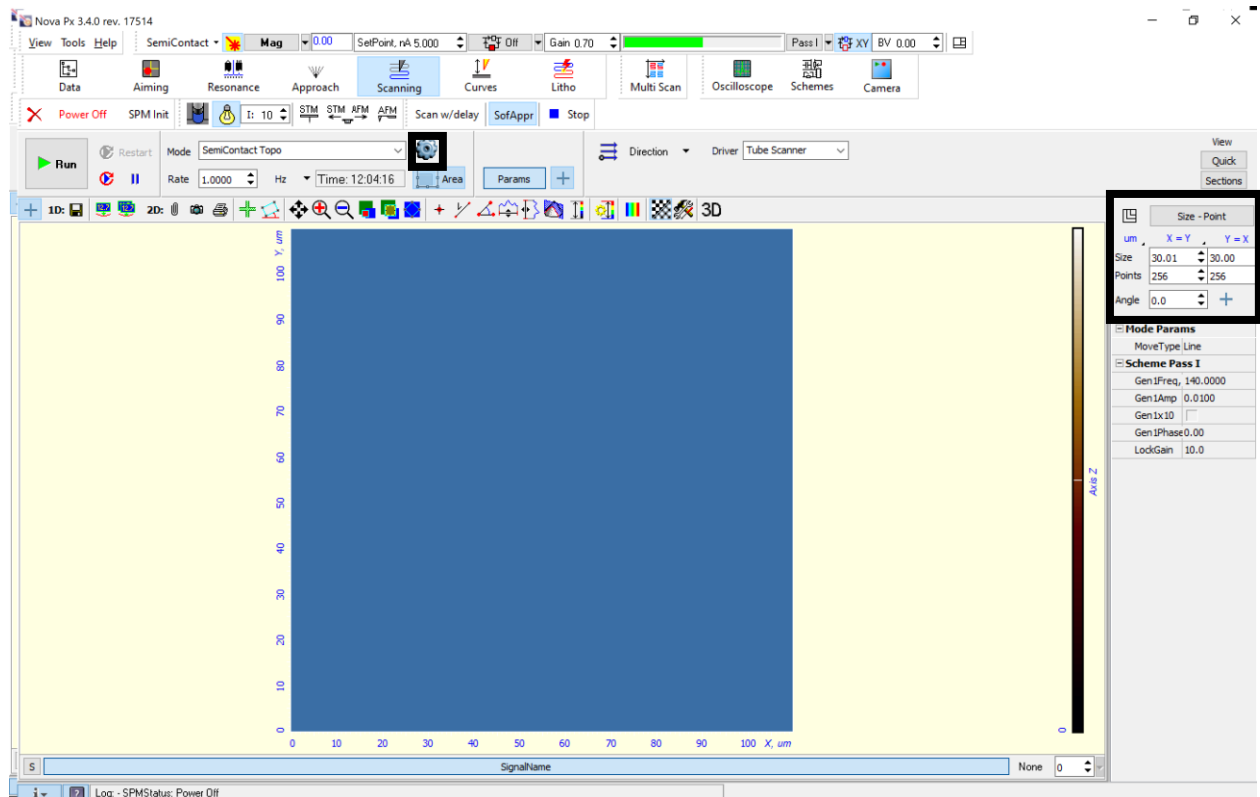

Figure 17: Scan area parameters are found in the top right
- This will bring up the area and resolution options in the top right (Figure 17). The magnification is controlled by the scan area and is always a square.
- Click the gear icon located right above the “area” button (Figure 17).